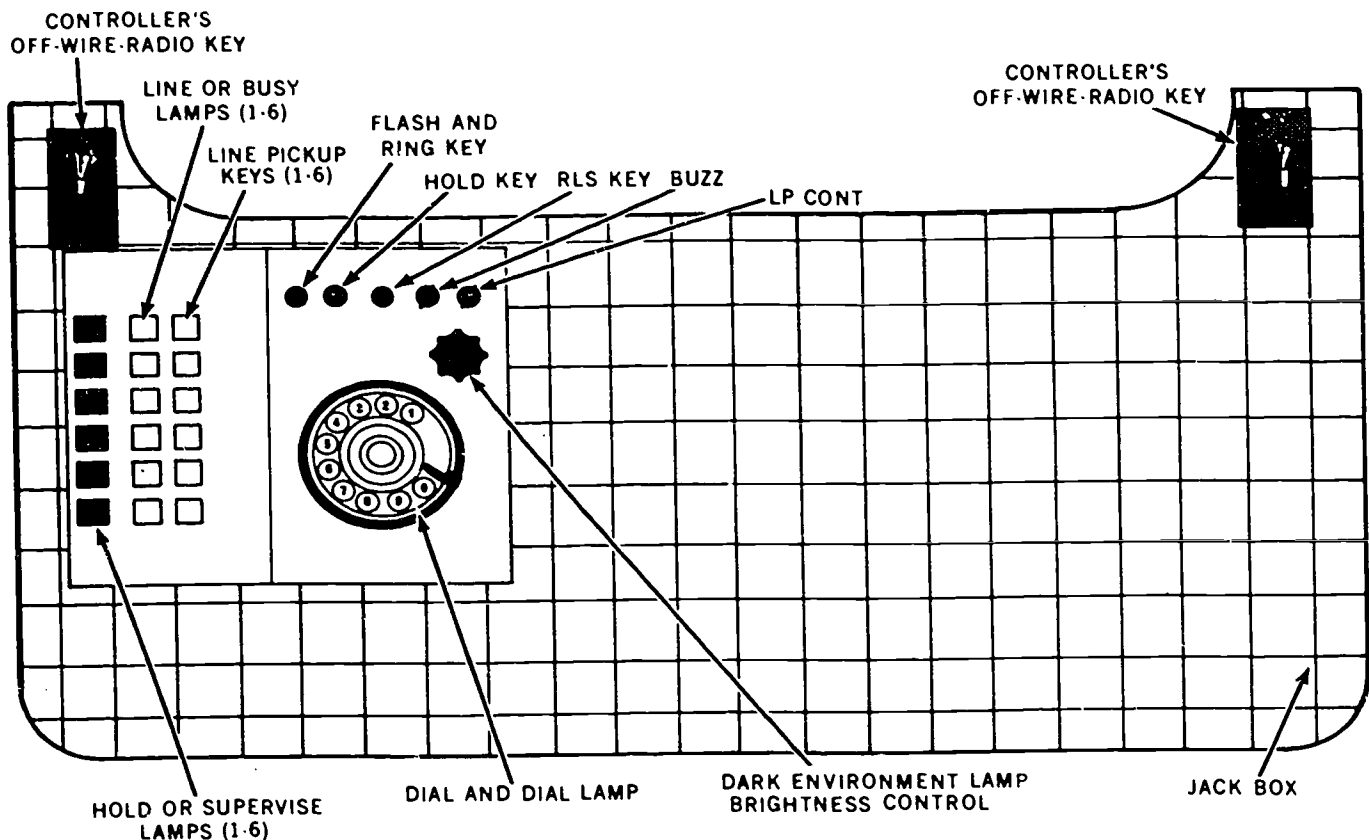
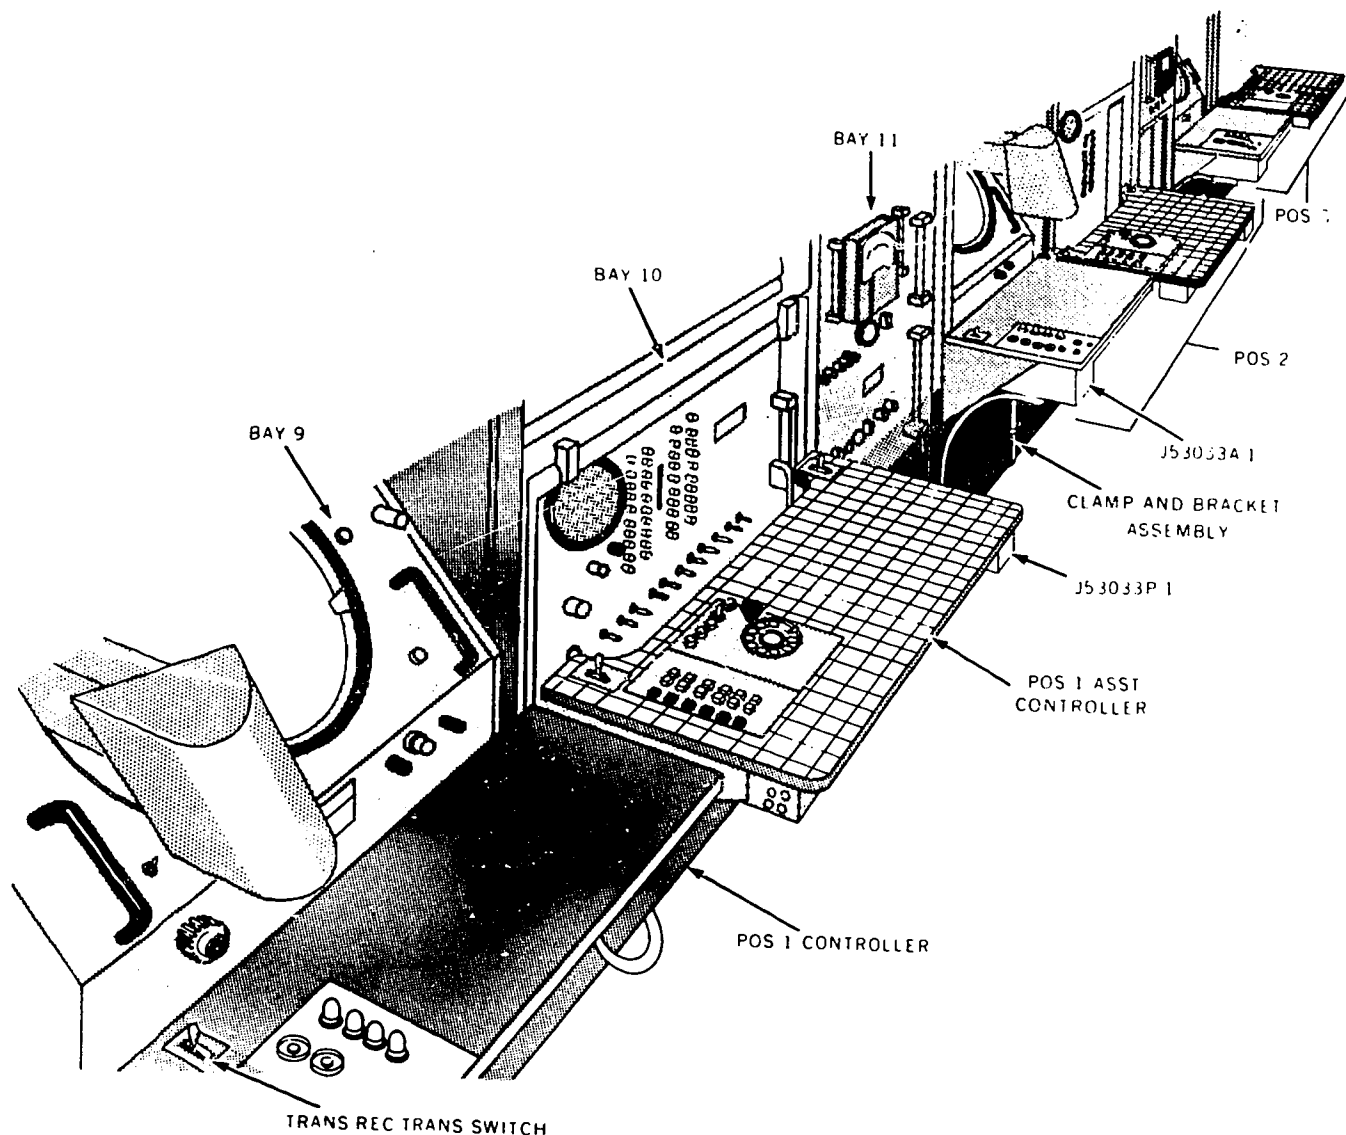

Figure 5-1. Wire-line communications controls for assistant controller's position.
Figure 5-2. Position arrangement of operations van.
Figure 5-1 illustrates controls for an assistant controller's shelf. It is evident from the identification of these units that some of the controls are familiar. For example, we have already discussed LINE PICKUP keys and lamps. We also described HOLD keys at that time. For each line in this equipment, there is a HOLD lamp that is separate from the LINE lamp. Figure 5-2 shows a partial view of the interior of an operations van. It is apparent that there are three assistant controller's positions. Therefore, although only one set of controls is shown in figure 5-1, there are three sets of the controls in a van. The controller's OFF-WIRE-RADIO keys may not be familiar controls. They are lever type keys which lock into the selected position. Since they permit the controllers in the van to change the talking path from wire circuits to radio circuits, or vice versa, these controls are often spoken of as transfer keys. Two keys are necessary because one serves the controller's position, and the second is operated by the assistant controller. In addition, a position may be unattended. At this time, the transfer key for the unoccupied position must be selected to RADIO or OFF. Another unit, shown in figure 5-2, is one that we also are considering with the controls because without it the communications circuits could not function. This is J53033P-1. This is a jack box unit, which accepts the plugs of the head telephone set (headset).
Station line telephone communications are possible between all system locations having a telephone. Typical locations with a telephone set are the control tower, base operations, the weather observer station, and the GCI station. The telephones in some control towers are in the AN/GTC-28 telephone equipment. This equipment is described in Chapter 6. The GCI line provides two-way telephone communications between the operations van and GCI station or voice signaling from the GCI station to the operations van. Voice communications from the GCI activate the loudspeaker in the operations van unless one of the controllers or assistant controllers is, by chance, monitoring the line. An operated key disconnects the loudspeaker of the operations van while connecting the headset to the GCI line. The loudspeaker is centrally located so that it can be heard at each of the six positions. It is not shown in figure 5-2.
The FLASH AND RING pushbutton (see fig. 5-1) connects ringing current to the selected station line, whereas the RLS pushbutton disconnects the headset from this line.
The telephone dial permits the associated station attendant to dial directly over a PBX or central office line. The number of lines is dependent on the type of equipment and organization. To illustrate, the shelf for the ground control approach (GCA) system pictured in figure 5-1 indicates the number of lines to be six. Other mobile radar approach control (RAPCON) systems may be larger than this one. Likewise, stationary RAPCON systems are larger.
2. Identify and locate in bay 10 of figure 5-1 the two controls that enable the controller to change from wire to radio communications.
indicators at the requesting station. Figure 5-2 also shows the equipment but identifies it with a J53033A-1. Also, you can see that the equipment is installed as a part of the controller's shelf in the operations van.
The operation of the colored pushbuttons and lamps results in identification of the various phases of an aircraft landing procedure. For example, depression of the WHITE key at the operations van results in flashing WHITE lamps and in operating a one-stroke chime at the control tower. The flashing WHITE lamps indicate to the controllers at the operations van and to the operators at the tower that a plane is a specific distance from the field during the landing approach. A tower operator acknowledges by pressing the WHITE pushbutton at his or her position, (see fig. 5-4). Thus, the lamps at the tower and van light steadily. When the radarscope (see fig. 5-2) indicates that the plane has arrived at a certain position, which is closer to the landing strip, the controller depresses the AMBER key. As a result, the
The voice frequencies originating at the van are transmitted to the tower when the controller depresses the PTT key. In addition, he or she must place the transfer key in either the WIRE or RADIO position. The operated PTT key also results in lighting the lamp under the front panel and the letters PTT. At the tower, following the depression of the PTT key, the one-stroke chime is operated to alert the operator of the incoming call. (NOTE: This tower chime also operated following the depression of the colored keys on the controller's shelf.) A controller's position also has an audible device for alerting the controller, to warn him or her of an incoming call. The BUZZ turn switch, shown in figure 5-1, permits use of this buzzer or the silencing of it.
Return to figure 5-1 and note the dark environment lamp brightness control. This variable resistor provides adjustment in the circuit resistance of the lamps. If you desire more light in the darkened van, turn this control until you get the lamp brilliance that you desire. However, this resistor is used in conjunction with the LP CONT OFF-ON switch.